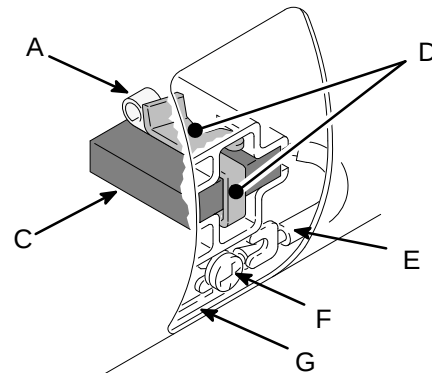

Fig 15
4. Loosen the screw (F). Pull the brush lead (E) away, but leave the motor lead terminal (G) in place. Remove the brush and spring. See Fig 15.
7. Slide the terminal under the screw (F) washer and tighten the screw. Be sure the motor lead is still connected at the screw. See Fig 15.